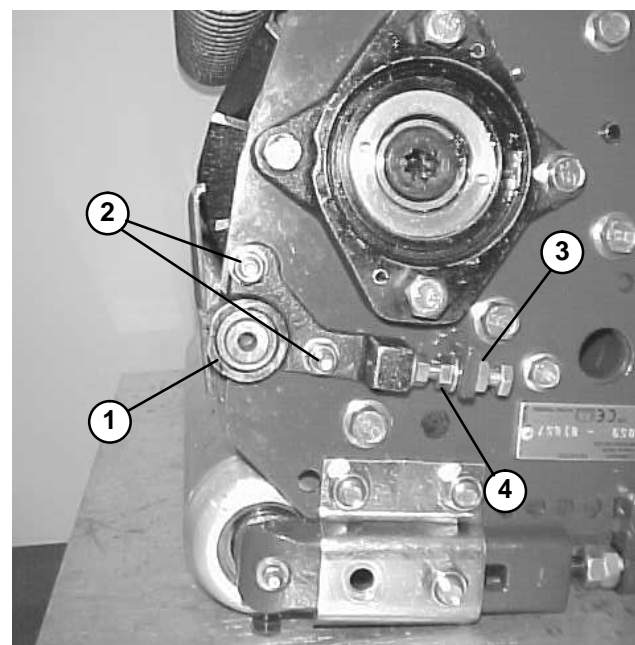

Figure 11
5. Loosen the pivot hub lock nuts to allow movement of the pivot hub (Fig. 11).
6. If paper was not cut on the left side: loosen the bottom adjusting nut on the pivot hub, then turn the top adjusting nut clockwise to pull the pivot hub up. **OR** If paper was not cut on the right side: loosen the top adjusting nut on the pivot hub, then turn the bottom adjusting nut counterclockwise to push the pivot hub down (Fig. 11).